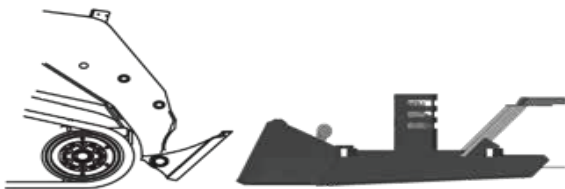

FIGURE 3.2A - DISC MULCHER ATTACHING
2. Tilt the skid steer loader Quick Attach Coupler slightly down and drive forward to the rear of the mulcher until the top edge of the Quick Attach Coupler connects into the attachment mounting bracket. See figure 3.2a below.